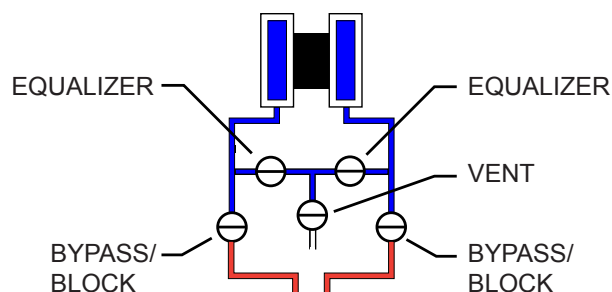

Figure 2.17—Valve positions for static pressure calibration
1. Close the bypass valves to isolate the pressure below the manifold (Figure 2.17, page 51).